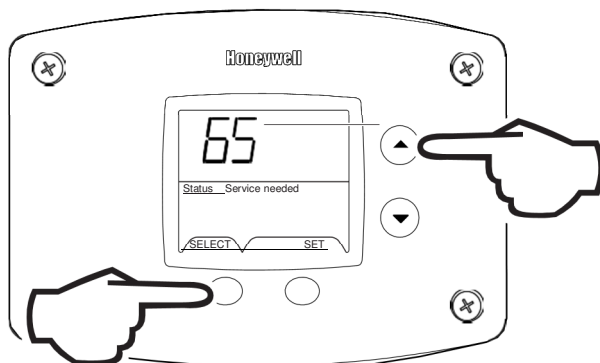

Fig. 61
1. Press for 3 seconds to enter service mode (Fig. 61).